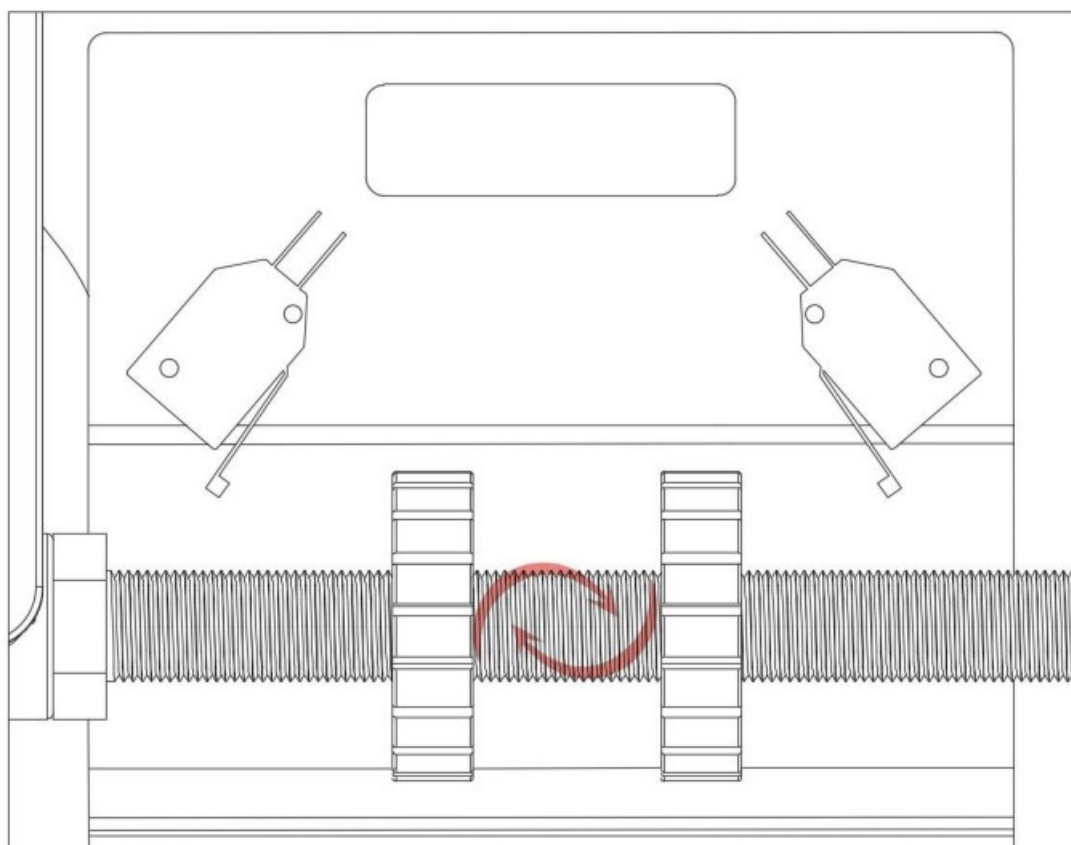

Figure 13
-Push and hold the metal lock back and turn up or both wheels to adjust the position of where the gate opens and closes. Figure 13